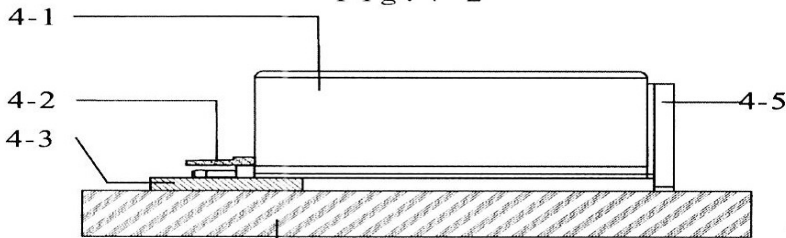

Fig. 4-3
- c) When the measured surface is smaller than the bottom surface of the instrument, the stylus sheath and adjustable leg can be used as auxiliary support to complete the measurement. See **Figure 4-3**